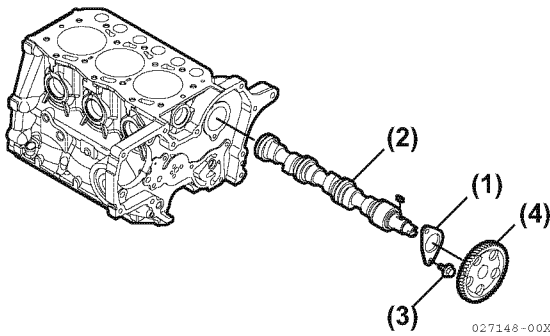

Figure 6-98
1. If removed, reinstall the camshaft end plate (Figure 6-98, (1)), key, and camshaft gear (Figure 6-98, (4)) onto the camshaft using a press.
2. Lubricate the camshaft (Figure 6-98, (2)) with clean engine oil or assembly lube. Slowly insert the camshaft through the front of the engine.
3. Reinstall and tighten the cap screws (Figure 6-98, (3)).